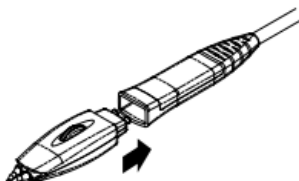

Figure 6 To Connect the Probe Head to the Preamp of the Active Probe
1. Connect the probe head to the preamp of the active probe, as shown in Figure 6.